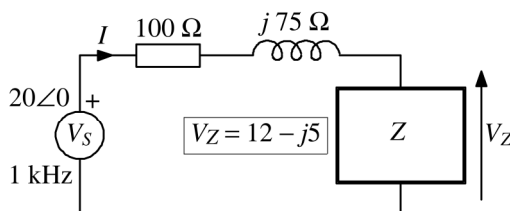

Figure 3.2
- (iii) The lamp itself is represented by the 200Ω resistor. If the supply voltage and frequency are $230 \text{ V}_{\text{rms}}$ and 50 Hz , calculate the power dissipated in the lamp. (In the context of a lamp, supply power can be dissipated as heat or as light output - the total dissipation is required here.) (4)
- b. An a.c. network consisting of a 1 kHz a.c. supply, lossy transmission line and unknown load, Z , is shown below in Figure 3.2
- (i) Evaluate I and Z for the circuit of Figure 3.2 and express the results in both Polar and Cartesian forms. You may assume V_Z follows the Cartesian description given in Figure 3.2. (6)
- (ii) Z consists of two components in series. Deduce what two component types make up Z and work out their values. (4)